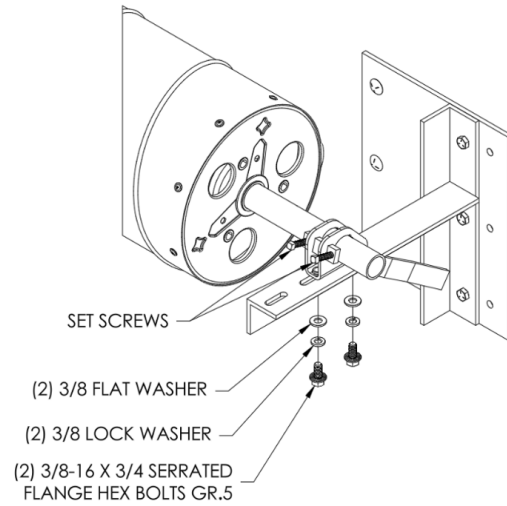

figure 13: Securing Stamped Axle Support
- ✦ Attach (1) Stamped Axle Support per side to door T-bracket using (2) each 3/8-16 x 3/4 serrated hex bolts, 3/8 lock washers and 3/8 flat washers into the slots closest to the opening. See Figure 13.